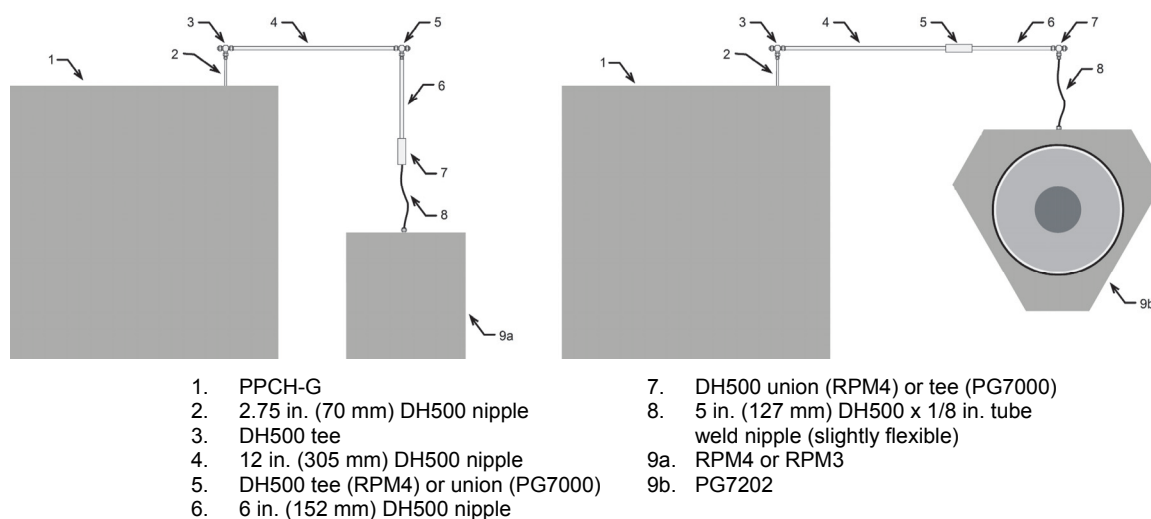

Figure 3. Connecting PPCH-G to an RPM4 or PG7202 using the standard PPCH-G interconnection accessories
- 1 Using tubing of appropriate pressure rating and a tee fitting, connect the RPM4 Q-RPT **TEST(+)** port to the PPCH-G **TEST** port (see Figure 3 for instructions on making this connection using the standard interconnection accessories supplied with the PPCH-G). The third leg of the tee is for the connection to the device or system under test.
- ❶ Using tubing of appropriate pressure rating and a tee fitting, connect the PG7202 **TEST** port to the PPCH-G **TEST** port (see Figure 3 for instructions on making this connection using the standard interconnections accessories supplied with the PPCH-G). The third leg of the tee is for the connection to the device or system under test.
- ❷ Using a standard pin-to-pin DB-9M to DB-9F RS232 cable, connect COM1 of the PPCH-G to COM3 of the PG7202.
- ❸ See the PG7000 Operation and Maintenance Manual for information on operating the PG7202 with an automated pressure controlling device.